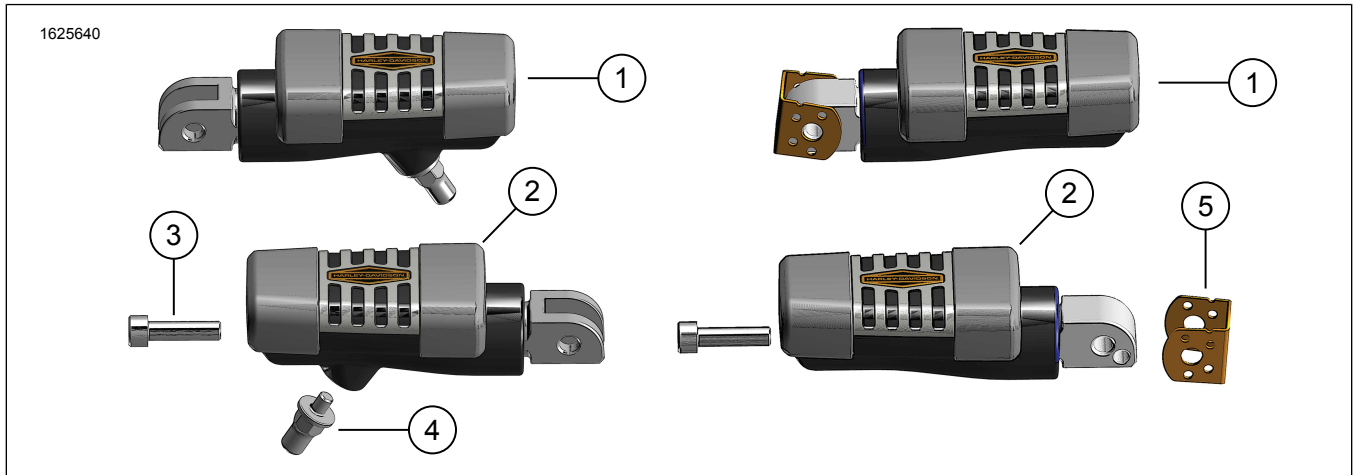

Figure 1. Kit Contents: Footpegs - Rider & Passenger
3. Align long leg of torsion spring (1) to hole in footpeg mount and insert.
5. Insert pin (4) through clevis, footpeg (3) and spring (1).
6. Install retaining clip (2).
9. Figure 1 Tighten adjustment screw (3).
- d. Figure 1 Tighten adjustment screw (3).
1. Figure 1 Remove existing wear peg (4) from footpeg.
2. Apply two or three drops of threadlocker to wear peg (4).